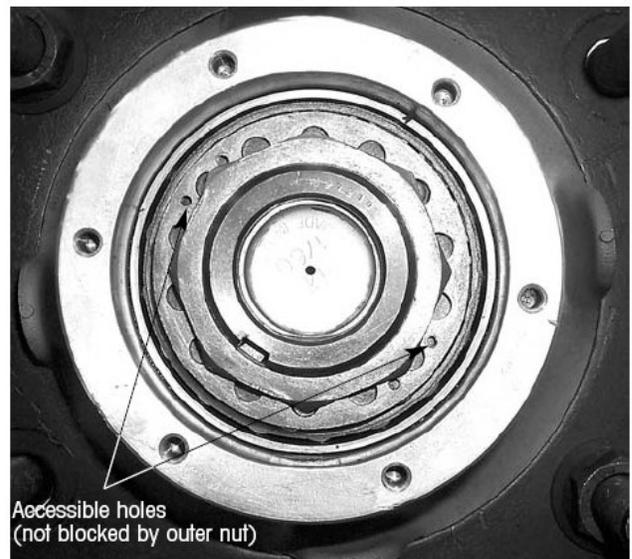

Figure 8
- 6l. Install the set screw into an accessible threaded hole in the lock washer, Set screw must contact the inner nut. Tighten to 16-20 in. lbs. (1.8-2.2 Nm) of torque. When properly installed, the set screw will be approximately half the height of the outer nut. *See Figure 8*